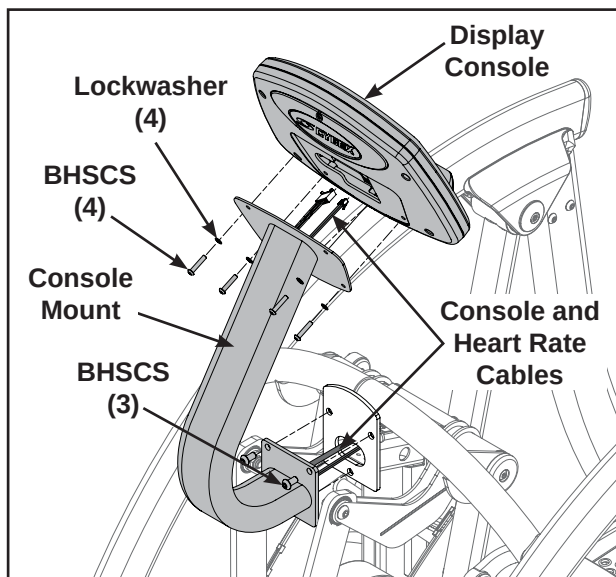

Figure 8
- A. Using a 5/32" Allen wrench, remove the four BHSCS with lock washers securing the display console to the console mount. See Figure 8.
- B. Disconnect the console and heart rate cables from the display console. See Figure 8.
- C. Using a 7/32" Allen wrench, remove the three BHSCS securing the console mount to the frame. See Figure 8.